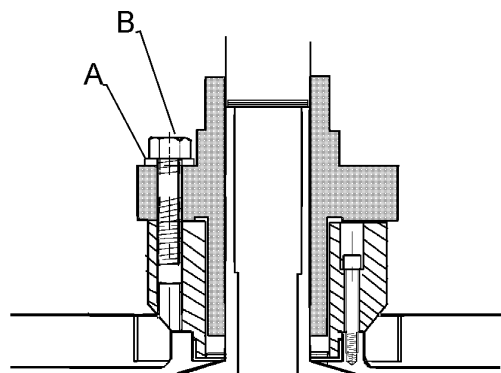

Figure 32 - Removal of Wet End
3. Remove the impeller retainer bolt and O-ring; then loosen the seal set screws. (Figure 32, item A).